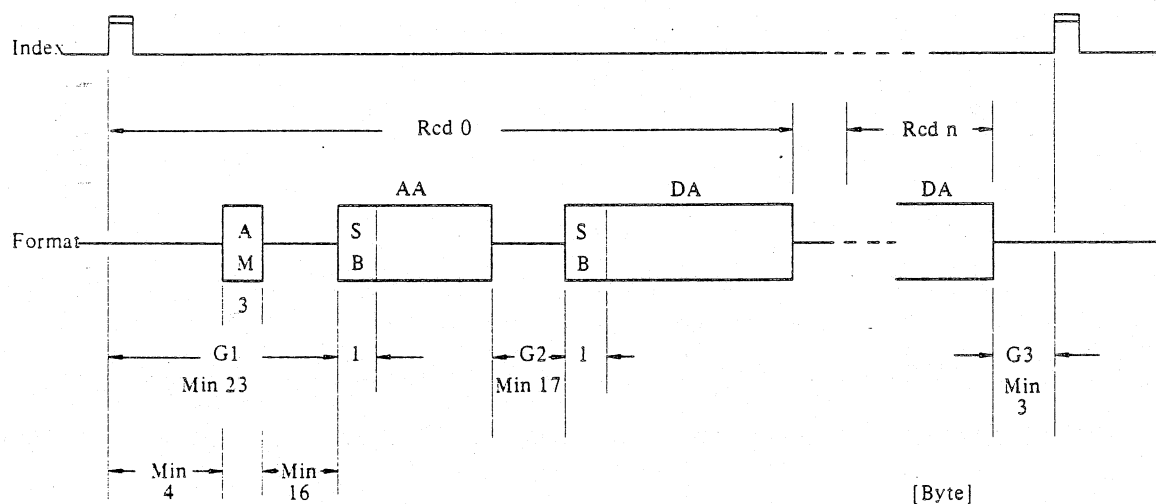

Figure 6.1-1 Variable Sector Format
- . All gap lengths used are the shortest in Figures 6.1-1 and 6.1-2.